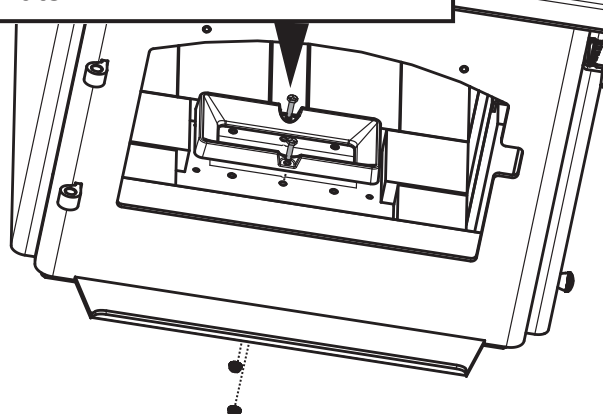

Figure 17.2
11. Using two bolts and two flange nuts to secure ARS channel using 3/8 open end wrench and 7/16 socket wrench (**Figure 17.2**).